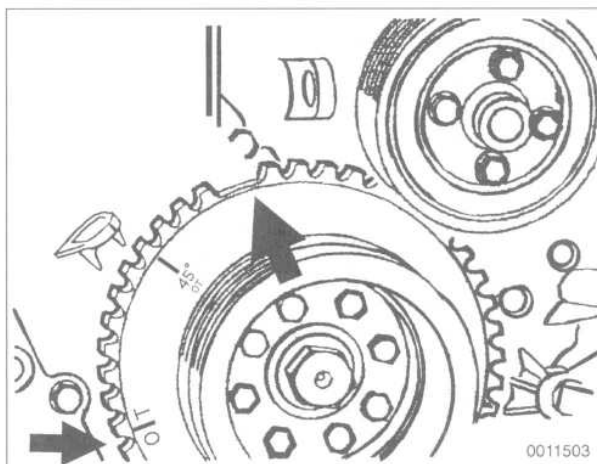

Fig. 45. Crankshaft vibration dampener positioned at 45° BTDC. Note position of 0/T mark and gap in toothed wheel (arrows).
16. Slowly turn engine over (away from direction of normal rotation) until cylinder no. 1 is at 45° before TDC (BTDC). See Fig. 45.